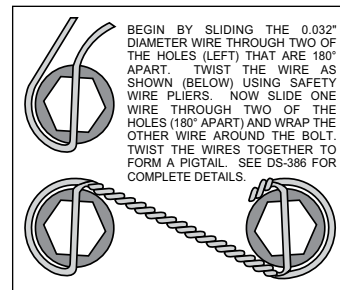

Figure 4. Safety Wire Diagram
- Install wheel studs (11) into the hub (12), Photo 3. Torque to 77 ft-lb. **NOTE:** There are two five lug patterns in the hub (5 x 4.50 and 5 x 4.75). Ensure the correct hub stud pattern is being used to fit the wheel application.
- Pack the large inner bearing cone (13) with high temperature disc brake bearing grease (available from your local auto parts store) and install into the backside of the hub (12), Photo 4.
- Install the grease seal (14, years 1957-1964) or (14A, years 1965-1967) by pressing into the backside of the hub (12), flush with the end of the hub, Photo 5.
- Pack the small outer bearing cone (15) with high temperature disc brake bearing grease and install into the front side of the hub (12), Photo 6. Slide the hub assembly onto the spindle. Secure using spindle washer (16) and spindle nut (17). Adjust bearings per OEM specifications. Install spindle nut retainer (18) and cotter pin (19), Photo 7.
- Screw dust cap (21) into hub (12), Photo 8. Friction created by the o-ring (20) on the dust cap keeps it from unscrewing. **NOTE:** The O.D. of the existing OEM spindle washer may be larger than the I.D. of the dust cap not allowing it to seat against the hub face. Therefore, use the spindle washer (16) supplied with the kit instead of the OEM washer.
- Orient the rotor (22) and the hat (23) as shown in Figure 1 or 2 and Photo 9. Attach rotor to hat using bolts (24) and washers (25). Apply red *Loctite*® 271 to the bolt threads and torque to 155 **in-lb** using a criss-cross pattern. For an added measure of security, the bolts may be safety wired using standard 0.032 inch diameter stainless steel safety wire as shown in Figure 4. Refer to Wilwood's data sheet DS-386 (available at www.wilwood.com/Pdf/DataSheets/ds386.pdf) for complete safety wire installation instructions.
- Slide the hat/rotor assembly (23/22) onto the hub (12) taking care to align the small countersunk holes in the hat with the small threaded holes in the hub, Photo 10. **NOTE:** The hat must fit flush against the hub face or excessive rotor run out may result. Install three flat head screws (26) through the small holes in the hat, and torque to 85 **in-lb**.